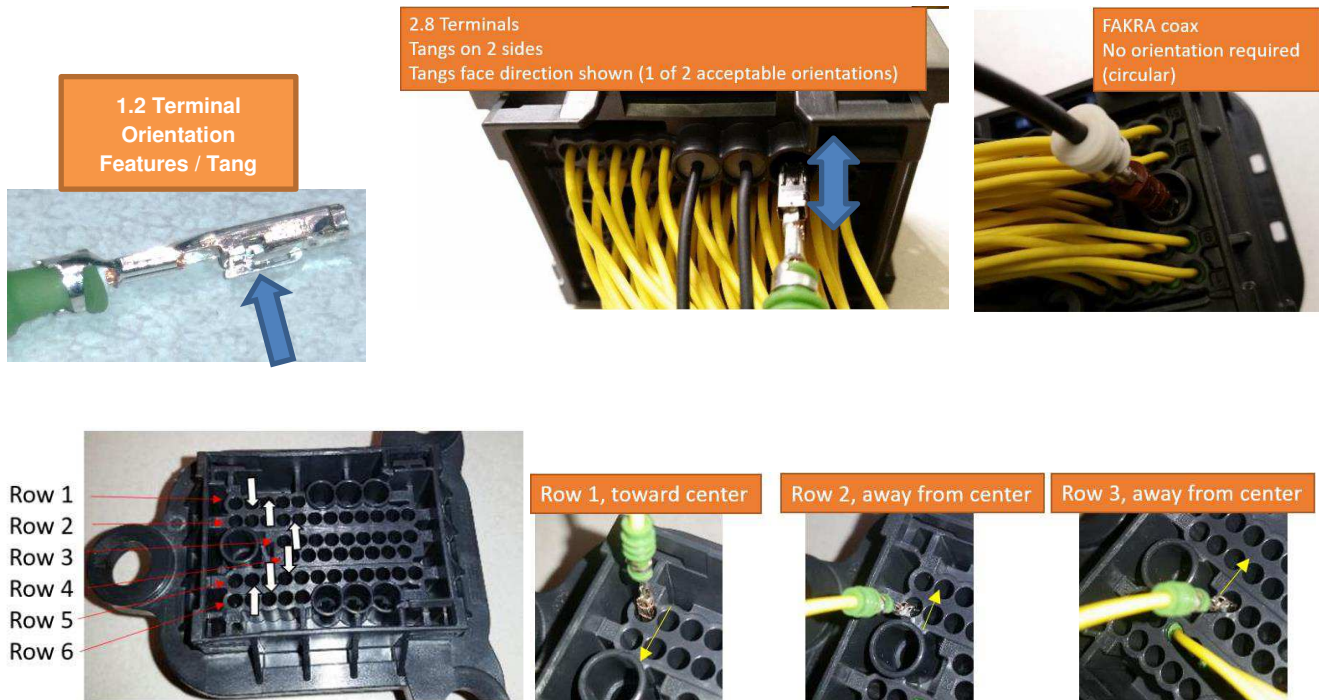

Figure 3
3. Align a crimped terminal with the appropriate circuit cavity of the connector so that the terminal is oriented as shown in Figure 3. Terminal orientation is the same as shown in Figure 3 for both male and female connectors. The 1.2 MCON circuits should have the orientation feature either inward or outward depending on the row being inserted, the rows are symmetric about the center of connector. The 2.8 circuits can be oriented either of 2 ways, as shown. The FAKRA / Co-ax terminal for circuit #21 does not require orientation.